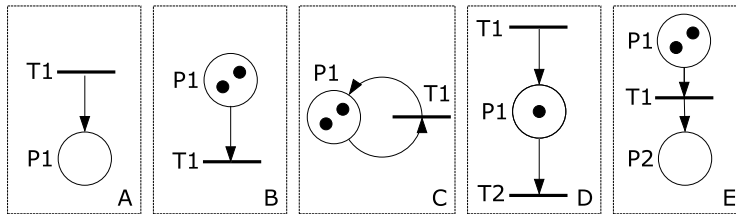

Figure 2
4. For each of the Petri nets in Figure 2 answer the questions